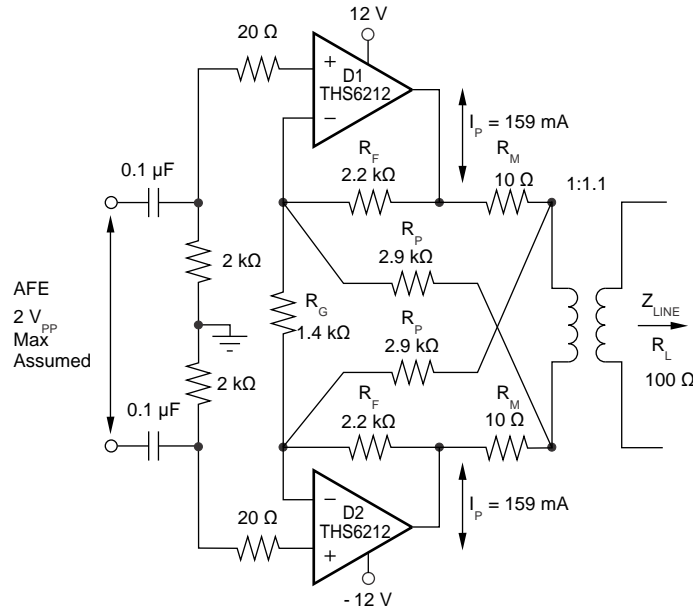

Figure 84. Dual-Supply Downstream Driver
Evaluating these equations for the THS6212 circuit and component values of Figure 84 gives a total output spot noise voltage of 38.9 nV/√Hz and a total equivalent input spot noise voltage of 7 nV/√Hz.
Figure 84 shows an example of a dual-supply downstream driver with a synthesized output impedance circuit. The THS6212 is configured as a differential gain stage to provide a signal drive to the primary winding of the transformer (a step-up transformer with a turns ratio of 1:n is shown in Figure 84). The main advantage of this configuration is the cancellation of all even harmonic-distortion products. Another important advantage is that each amplifier must only swing half of the total output required driving the load.
The main design requirements for Figure 84 are to match the output impedance correctly, satisfy headroom requirements, and ensure that the circuit meets power driving requirements. These requirements are described in the Detailed Design Procedure section and include the required equations to properly implement the design. The design must be fully worked through before physical implementation because small changes in a single parameter can often have large effects on performance.
For Figure 84, the input signal is amplified with a gain set by Equation 6:
When using a synthetic output impedance circuit (see Figure 84), a significant drop in bandwidth occurs from the specification provided in the Electrical Characteristics tables. This apparent drop in bandwidth for the differential signal is a result of the apparent increase in the feedback transimpedance for each amplifier. This feedback transimpedance equation is given by Equation 16:
For the example given by Figure 84, the peak current is 159 mA for a signal that requires a crest factor of 5.6 with a target line power of 20.5 dBm into a 100- Ω load (115 mW).
With a typical quiescent current of 23 mA and a nominal supply voltage of ± 12 V, the total internal power dissipation for the solution of Figure 84 is given by Equation 19:
- f. Use the $-V_S$ plane to conduct heat out of the package. The package attaches the die directly to an exposed thermal pad on the bottom, and must be soldered to the board. This pad must be connected electrically to the same voltage plane as the most negative supply applied to the THS6212 (in Figure 84, this supply is -12 V).